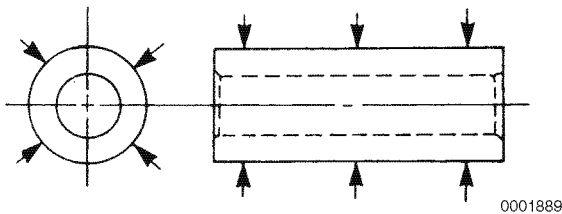

Figure 6-116
7. Measure the outside diameter of the wrist pin in three places and at 90° (**Figure 6-116**). See *Piston on page 6-14 for specifications*. Record the measurements.